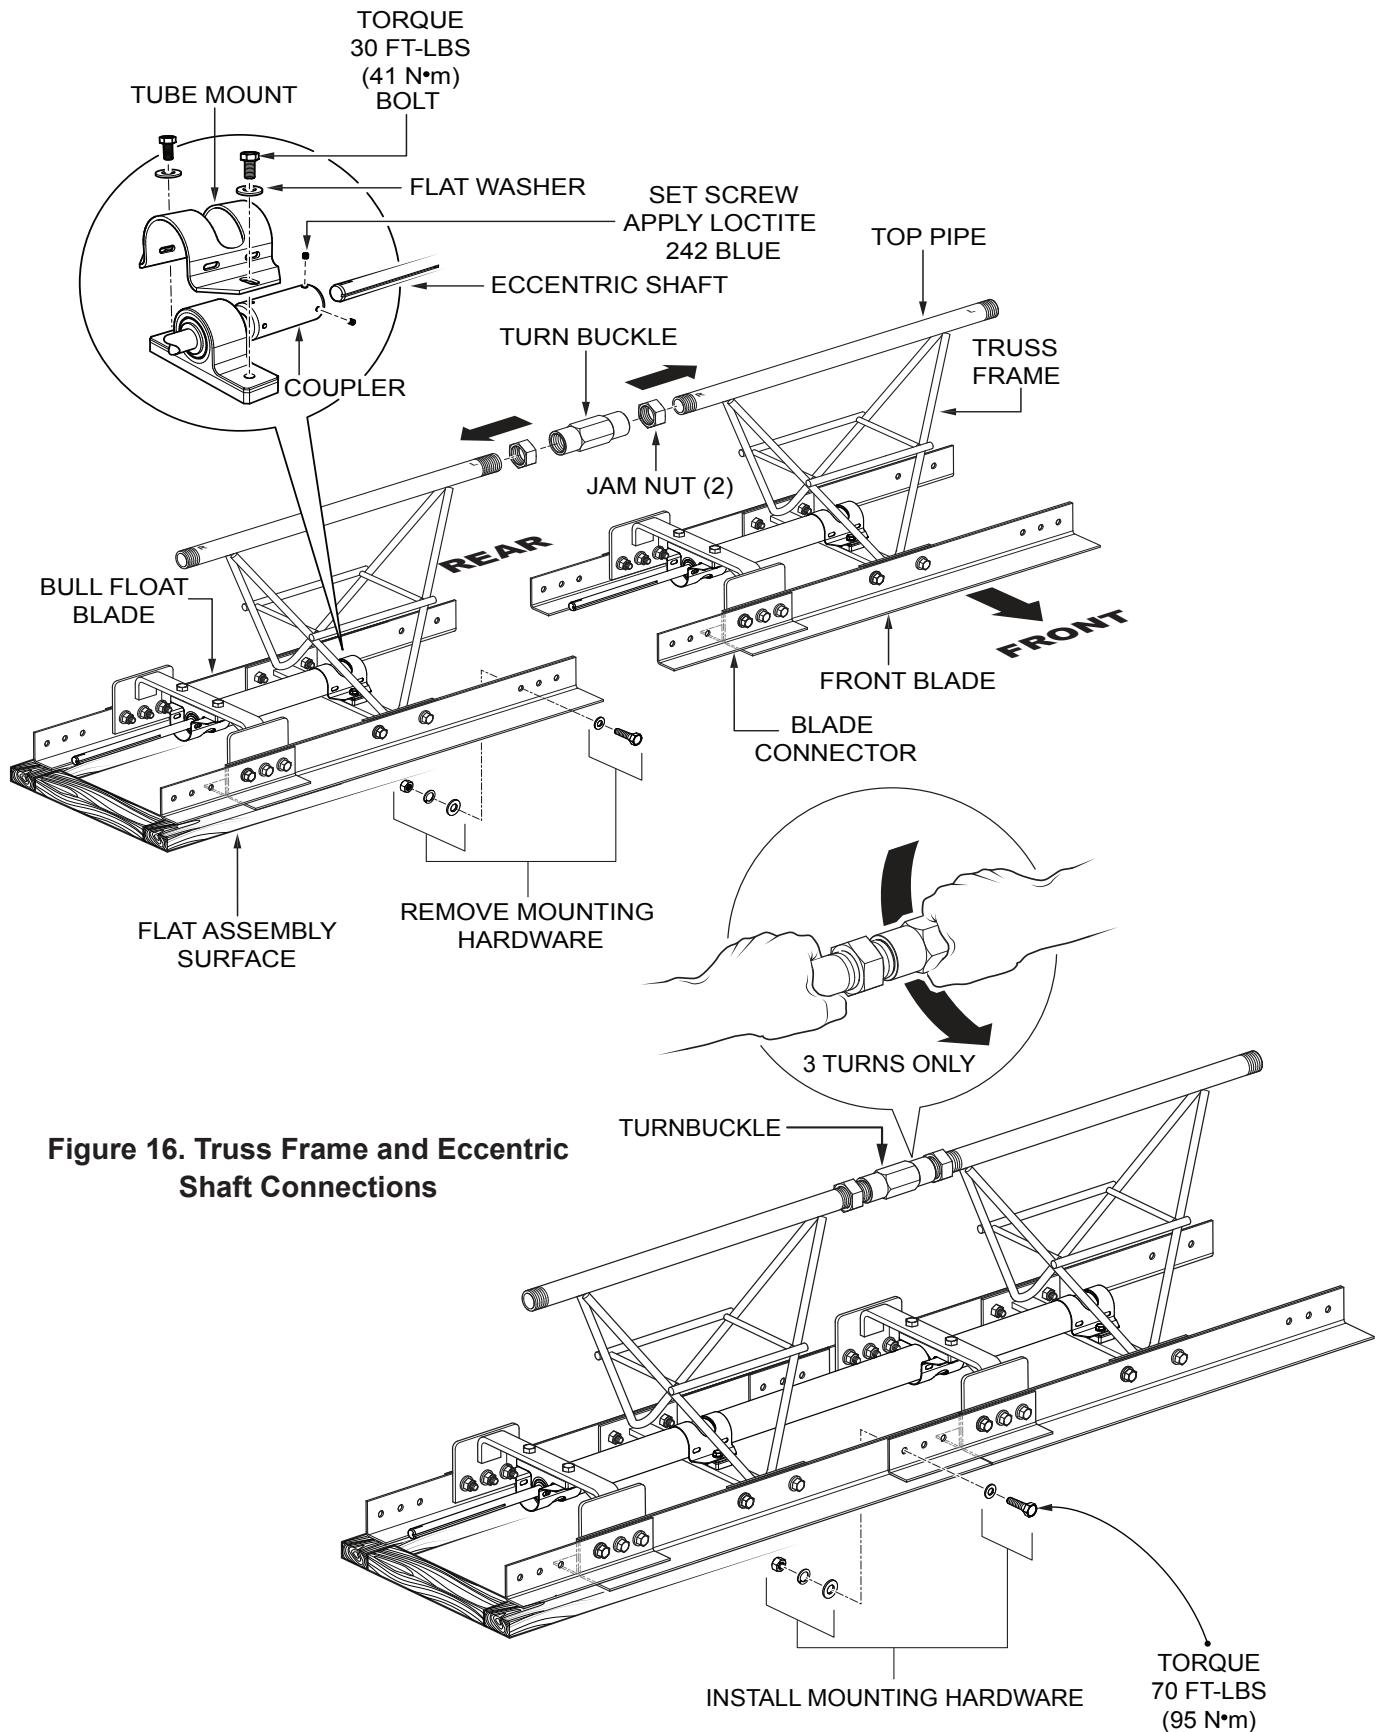

Figure 16. Truss Frame and Eccentric Shaft Connections
2. Screw jam nuts onto top pipe as shown in Figure 16. Hand thread the top pipe turnbuckle about 3 turns onto the top pipe of the mating truss section.
4. Next, verify that the drive shaft coupler has already been installed on the free end of the drive shaft as shown in Figure 16.